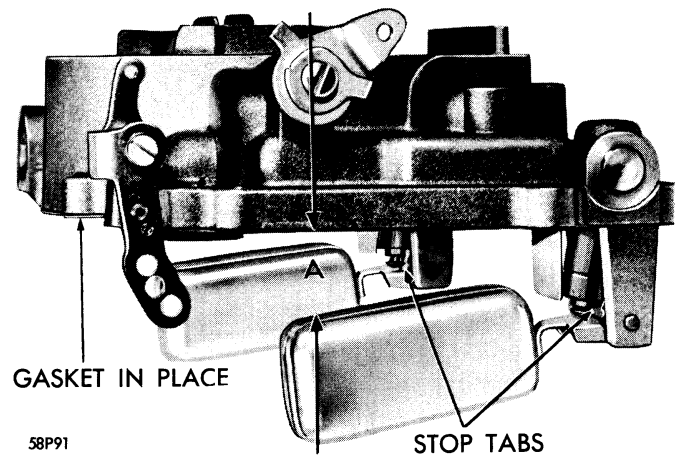

Figure 99—Checking Float Drop
**Float Drop Setting**—Holding the air horn in an upright position, measure the distance from the top of the floats (outer end) to the air horn gasket, as shown in Figure 99. Refer to Data and Specification for float drop distance. If an adjustment is necessary, bend the stop tabs on the float levers until the correct drop setting has been obtained. Bend the tab towards the needle seat to lessen the drop, or away from the seat to increase the drop.